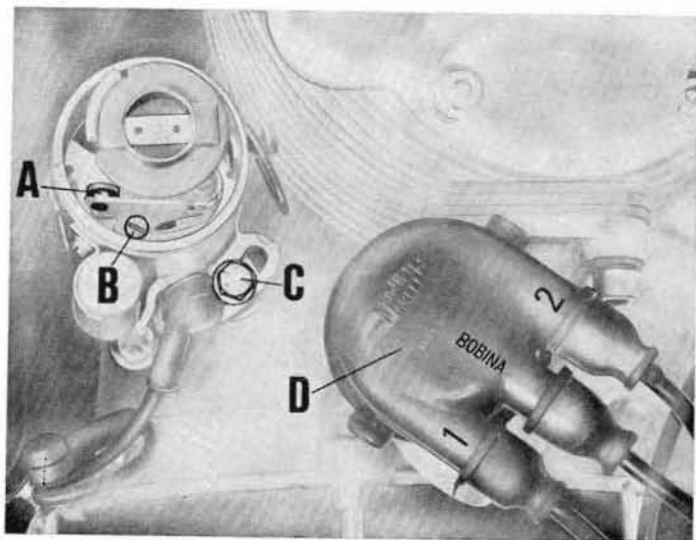

Fig. 19
(See fig. 19)
Remove generator belt cover. Check that the distributor contact points are 0.42-0.48 mm. (.016-.018") apart. Ensure the left cylinder (2) is on its compression stroke i.e. with both valves closed. Rotate the generator pulley on the crankshaft till the slot (fig. 19/1) is opposite mark A traced on the timing cover.